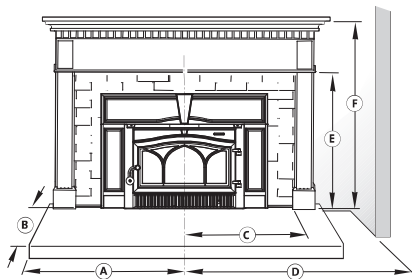

Figure 58. Clearance diagram - No heat shield protection.
- Clearance (open space) must be maintained between the fireplace insert and combustible materials located above and to the side. See figures 58 and 59 for minimum dimensions.